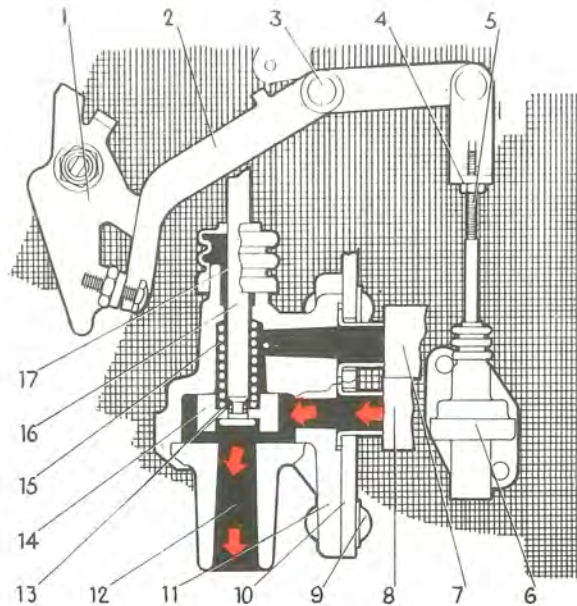
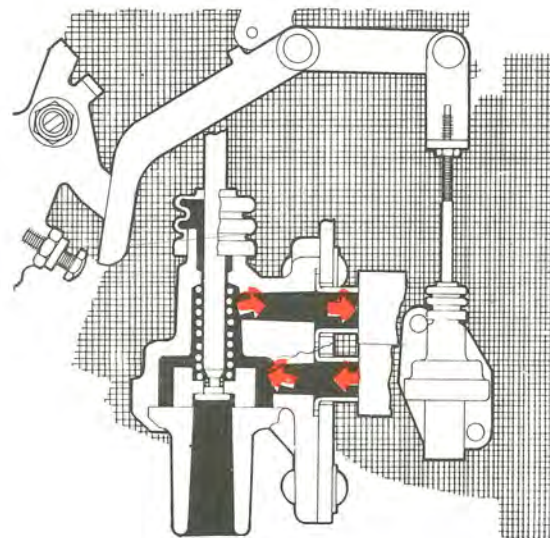

Fig. 2-72. Hot start valve, function, idling
Fig. 2-73. Hot start valve, function, driving
outlet (12, Fig. 2-72), and the fumes are led directly out into the atmosphere when the engine is switched off or idling.
When the throttle is at idling position, the lever (1), Fig. 2-72, presses against the valve control (2). The piston (14) is thereby lifted to its upper position by the control rod (16). The connection between the floatchamber and air cleaner is closed and fuel fumes are led directly out into the atmosphere through the outlet (12). (On vehicles fitted with an anti-fume device, the fumes are led from the outlet (12) to the venting filter.) When the accelerator pedal is depressed (See Fig. 2-73), the lever (1) releases the valve control (2) and the piston (14) is pressed by the spring (15) against its lower position. The outlet (12) is shut off, the fuel fumes are led into the air cleaner, and when the engine starts running, further through the carburettor and into the engine combustion chambers.